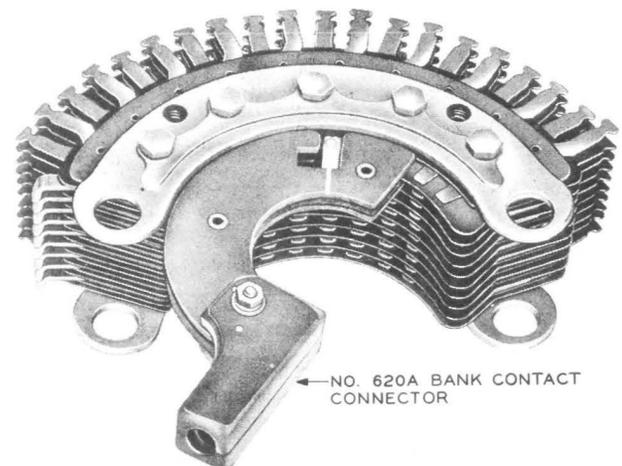

Fig. 13 — Connecting to Terminal of the Step-by-Step Line Finder Switch Bank
3.02 When connecting to springs and terminals of apparatus, use the No. 419A test connector to connect to relay contact springs, contact terminals, or the springs of other apparatus for which this tool is applicable. In some cases, the No. 357 spring contact clip and insulator may be used instead of the No. 419A test connector. Use the No. 364 spade terminal to connect to binding posts of portable test apparatus and the No. 365 and KS-6278 connecting clips for connecting to terminals of miscellaneous apparatus (jacks, repeating coils, etc). Connect stud-ended connecting tools to a test cord equipped with a 360-type tool. To insulate the jaw of a connecting clip, insert the clip in the No. 108 cord tip. Support or fasten the test cord so that the weight of the cord will not disconnect the connecting tool from the apparatus under test. For step-by-step line finder switch banks, use the No. 620A bank contact connector as shown in Fig. 13. Insert the connector in the proper level of the bank, starting the connector over the bank insulator so that the jaws of the connector span the contacts. Rotate the connector until the metal contacts rest on the terminals to be tested.